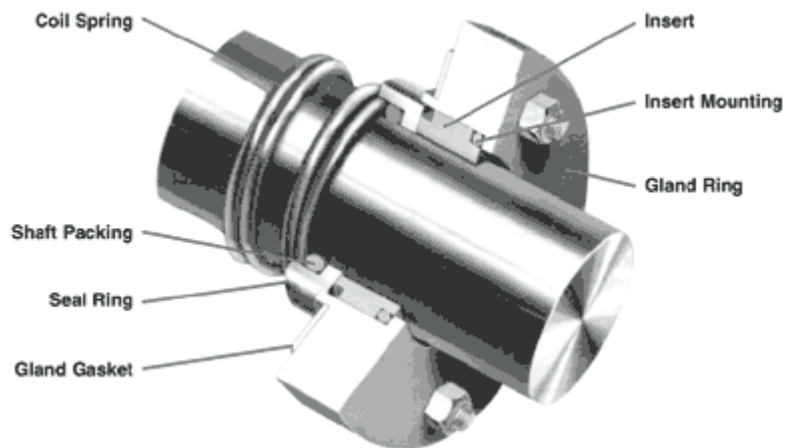

Fig. 9 A Simple Mechanical Seal
All mechanical seals are constructed of three basic sets of parts as shown in Fig. 9:
1. A set of primary seal faces: one rotary and one stationary shown in Fig. 9 as seal ring and insert.